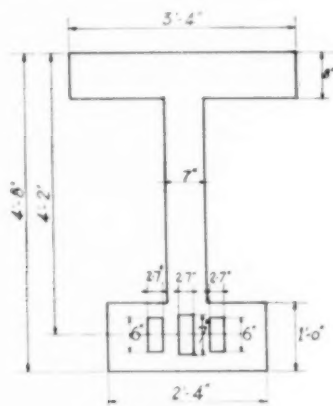

Fig. 4.
EXAMPLE (Fig. 4).— $l = 98$  ft.  $q = 1370$  lb. per foot.  $b = 40$  in. Factor of safety  $= 2.5$ .  $d = 50$  in. From formula (3), assuming  $p = 950$  lb. per foot, we calculate  $\beta = 0.0546$ ,  $\lambda = 0.39$  per cent., and  $\alpha = 0.154$ . Consequently we require  $A_T = 7.8$  sq. in., say, 128 wires of 7 mm. (0.276 in.) diameter; this will be obtained by a middle cable of 48 wires and two side cables of 40 wires each.
The solution is shown in Fig. 4, although in practice this must be changed slightly by giving some slope to the lower surface of the top flange and the top surface of the bottom flange so as to make it possible to remove the forms.